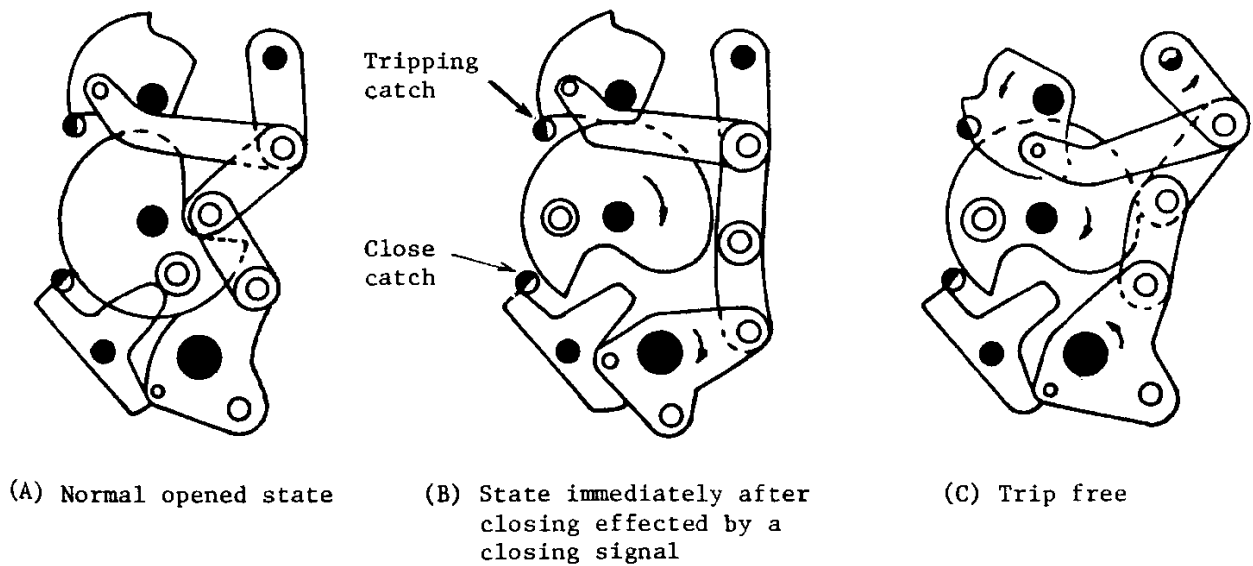

Fig. 10 Operation of Mechanism
- (1) Closing.... The condition shown in Fig. 10(A) represents the condition where the breaker is open and the closing spring is charged (ready for closing). When in this condition the closing catch is driven by the closing button or the closing coil, the closing spring causes the cam to rotate at fast speed into the condition shown in Fig. 10(B) in which the breaker is closed.
- (2) Charging... From the CLOSED condition of Fig. 10(B) only the closing cam is rotated by the motor, with the breaker kept closed, until the roller on the cam engages with the catch.
- (3) Tripping... When the trip shaft is driven by a trip button or a trip coil, all the links return to the original OPEN condition shown in Fig. 10(A).
- (4) Trip free.. When the trip catch is driven the link will come to the trip free condition shown in Fig. 10(C). When the charging operation is completed the link will assume the OPEN condition.